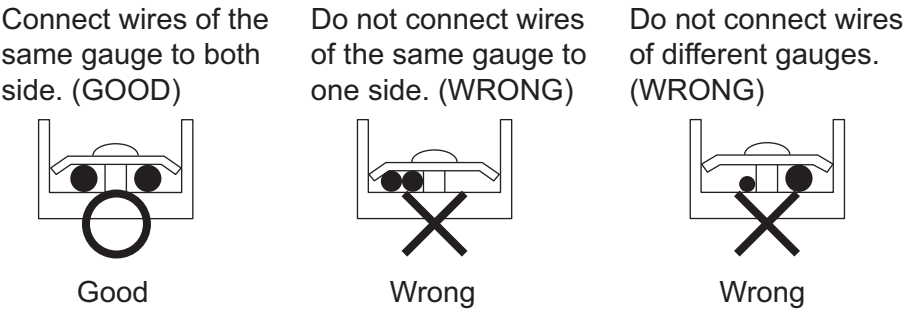

Fig. 24
- Do not connect wires of different diameter to the same power supply terminal. (Looseness in the connection may cause overheating.) **(Refer to Fig. 24)**